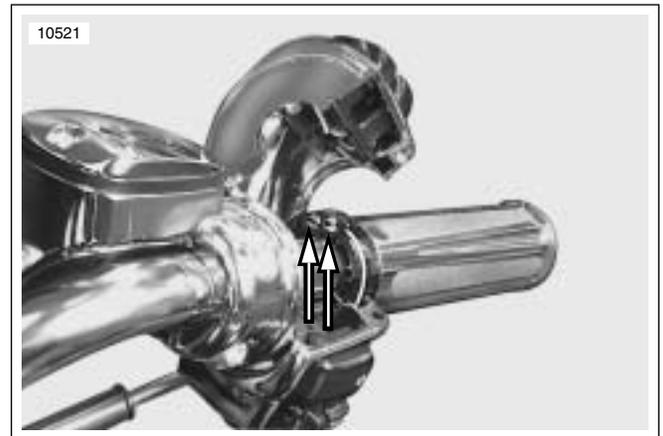

Figure 2-12. Throttle and Idle Cable Ferrules
- See Figure 2-12. Raise upper housing enough to expose Throttle grip/cable assembly. Use a screwdriver to rotate cable ferrules in throttle grip notches. Remove cables from notches on inboard side of throttle grip.